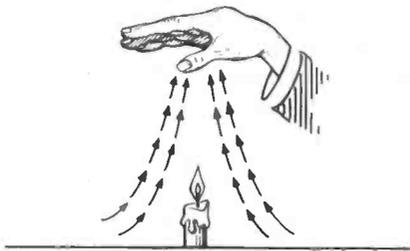

Fig. 4—Heat Transfer by Convection
3. CONVECTION—Passage of heat from one point to another by means of circulation of a fluid. Either air or water may be considered as a fluid. Gravity circulation results from a change in density caused by the addition or loss of heat in the fluid, as illustrated in Fig. 4. Forced circulation by means of a fan or pump hastens heat transfer.